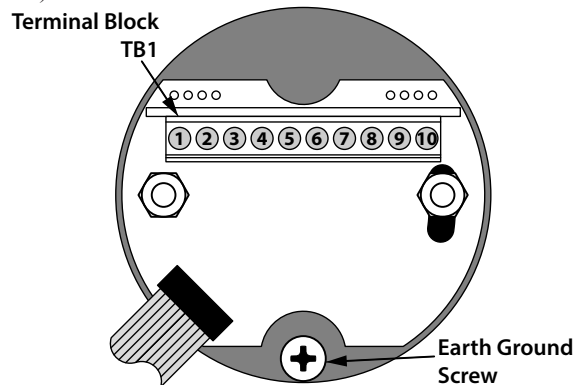

Figure 4: Terminal Block View
Second, remove the nylon-retained metal nuts that hold the User Interface Board in place, to reveal the terminal block TB1 (see Figure 4)
- Connect the Vac's earth ground wire to the ground screw inside the SG1000RA housing (see Fig 4 for location of ground screw).
- See Figure 4 for related information.